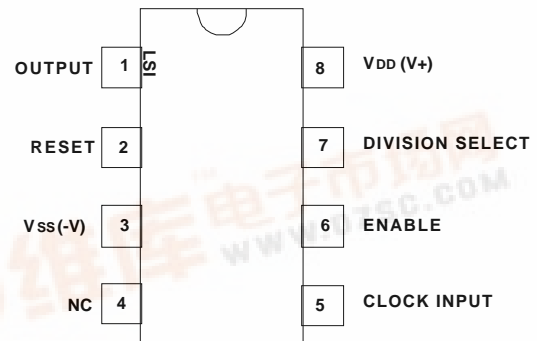

FIGURE 1
- RED x/y (DIP); RED x/y-S (SOIC) See Figure 1